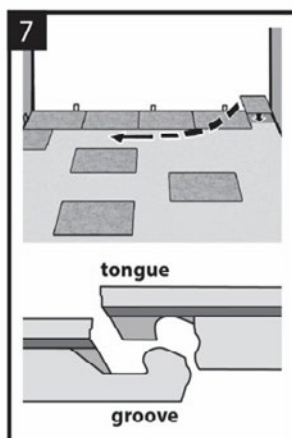

Figure 7
7. When cutting a plank to start a row, you will need to cut off the end with the groove. The remaining piece can then be used on the opposite side of the room, at the end of that row if layout permits. See Figure 7.